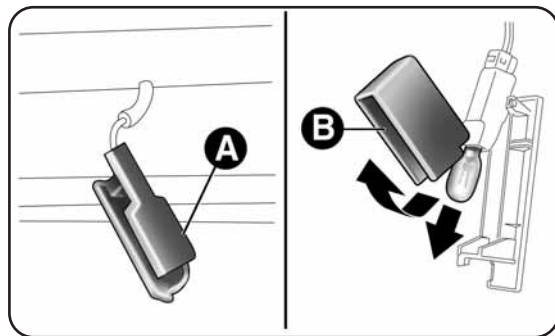

fig. 149
- open the door (front or rear) and extract the light A-fig. 149;